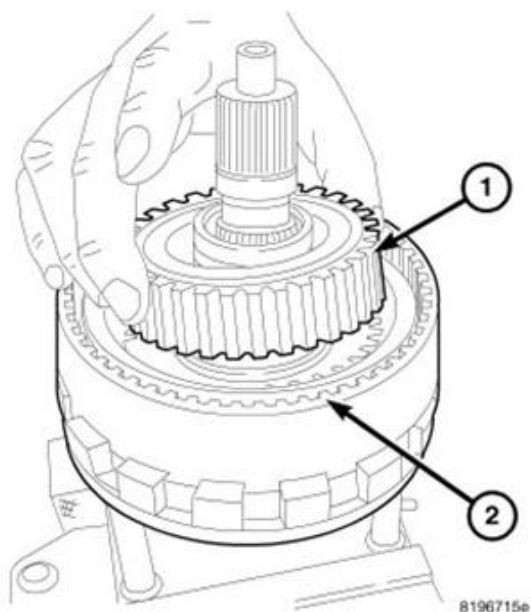

**Figure 37 – Overrunning Clutch**
52. Remove the overrunning clutch (1) from the low clutch (2) (Figure 37).
63. Install the overrunning clutch (1) to the low clutch (2) (Figure 37).